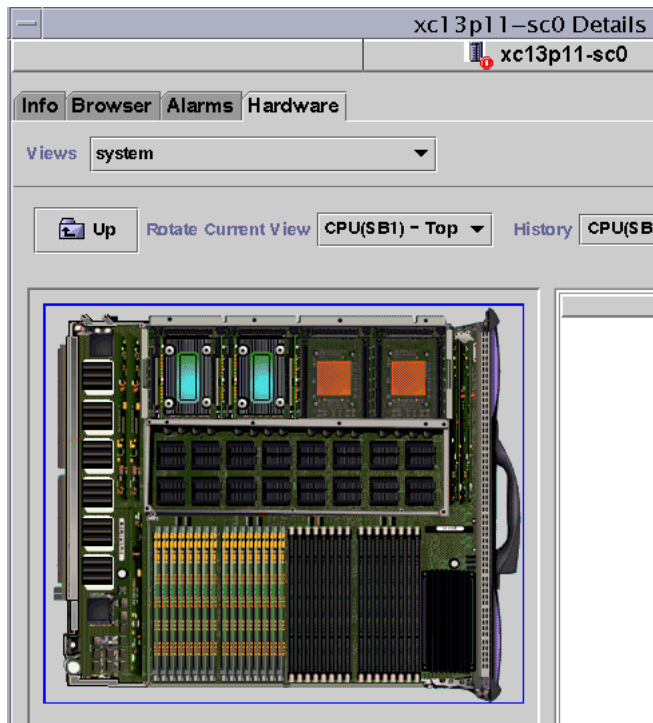

FIGURE 5-3 Top of CPU Board in Platform Physical View
5. Click on one of the CPU boards in the top slots of the Sun Fire High-End Systems platform to display a Physical View of the top of a CPU board (FIGURE 5-3).